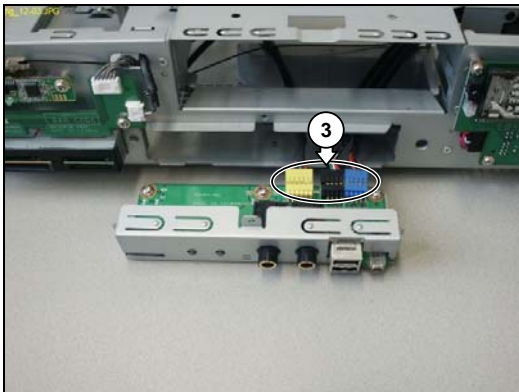

Figure 12.12-3
9. Disconnect all cables (3) from the rear of the FP I/O board. See Figure 12.12-3.